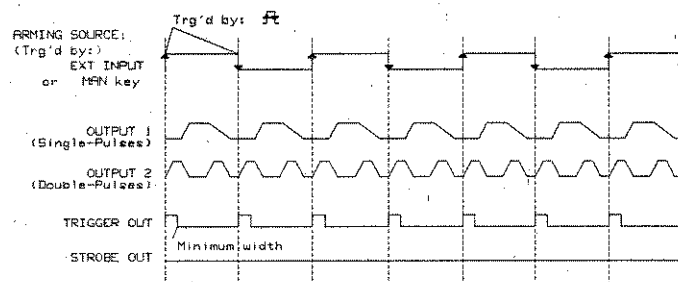

Figure 3-8.
- EXT INPUT (External signal) triggered by rising or falling or both edges (See Figure 3-8).